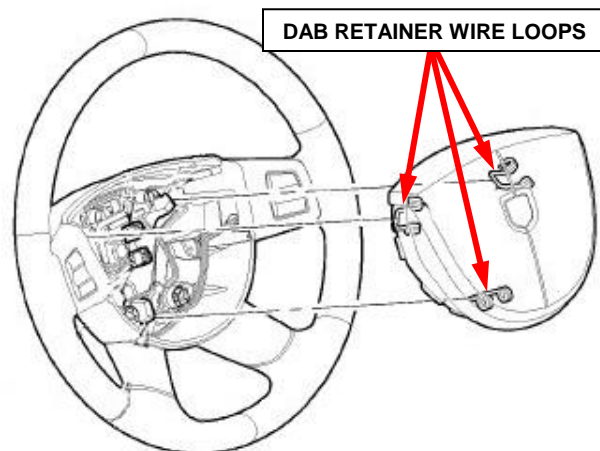

Figure 3 – DAB Retainers
5. Engage the lower air bag snap retainer wire loop onto the lower hook of the steering wheel armature. The lower snap retainer wire loop has a distinctive V-shape and must always be installed onto the six o'clock hook of the steering wheel armature (Figure 3).